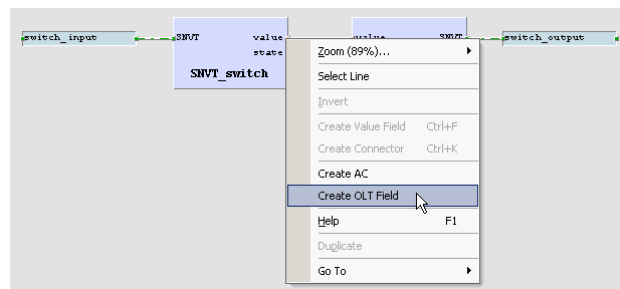

Figure 19: Create online test fields
12. For later debugging, it is good practice to add online test fields to the drawing, to display the current value of the signals during online test. To do this, right-click on the value output of the left function block and select **Create OLT Field** from the context menu, as shown in Figure 19.